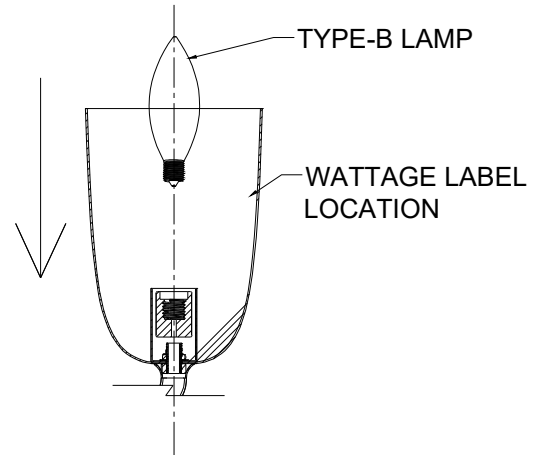

FIGURE-03
6. Place the lamp into the socket of the fixture. (See Figure-03)